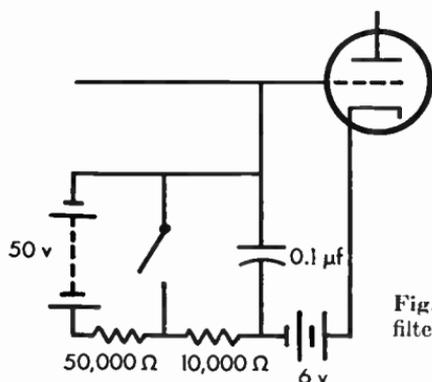

Fig. 7.02 Grid keying with click filter.
7.02 In the keying circuit of Figure 7.02, what is the approximate bias voltage for *make* and for *break*? What is the time constant for *make* and for *break*?